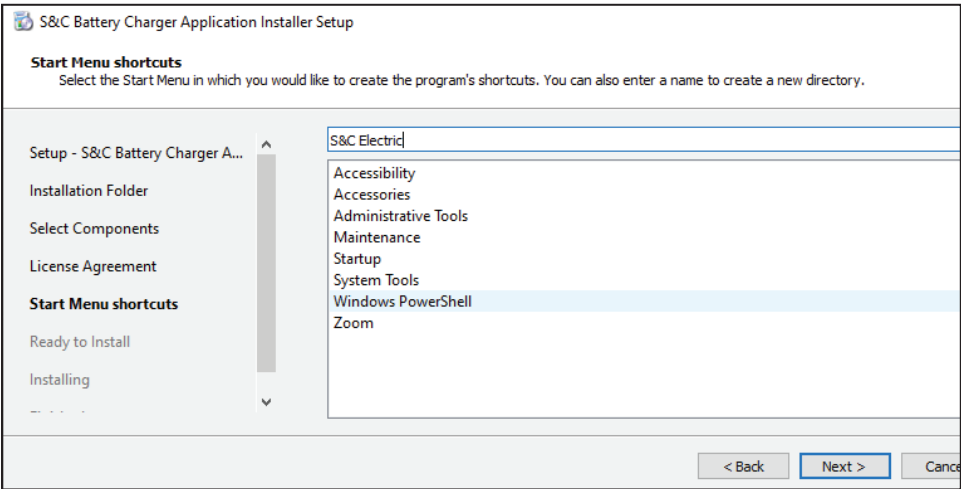

Figure 8. The Start Menu shortcuts screen.
STEP 6. Select the **Start** menu in which you would like to create the program's shortcuts. The **S&C Electric** menu is selected by default and will keep the S&C Battery Charger application organized with any other S&C applications on the PC. See Figure 8. When finished selecting a location for the shortcuts, click on the **Next** button.